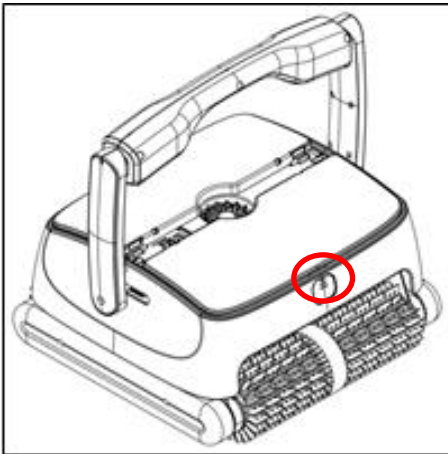

Figure 1
- a. Press the opening button (see Figure 1)